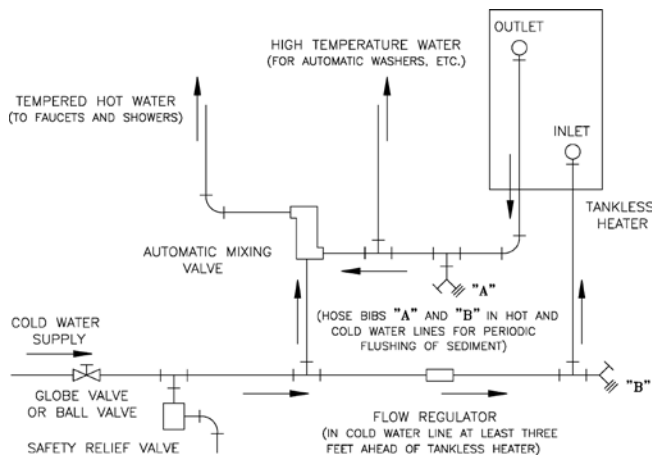

Figure 14: Schematic Tankless Heater Piping
- I. CONNECT TANKLESS HEATER PIPING AS SHOWN IN Figure 14.** See Table 4 for Tankless Heater Ratings.